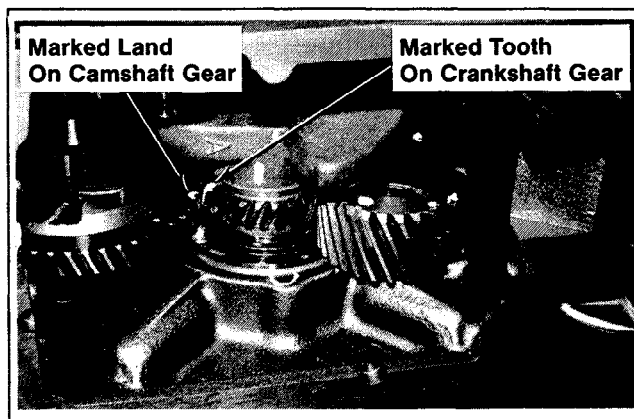

Figure 12-22. Aligning Camshaft Gear And Crankshaft Gear.
4. Align the fifth (5th) land marked on camshaft gear with the fifth (5th) tooth marked on crankshaft gear. Refer to Figure 12-22.